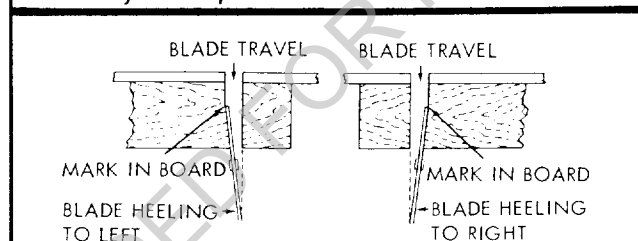

Figure 13
- If a gap exists between the saw blade and the square, one of two types of "heel" exists. (See figure 13.) To correct for either type of condition, proceed as follows: